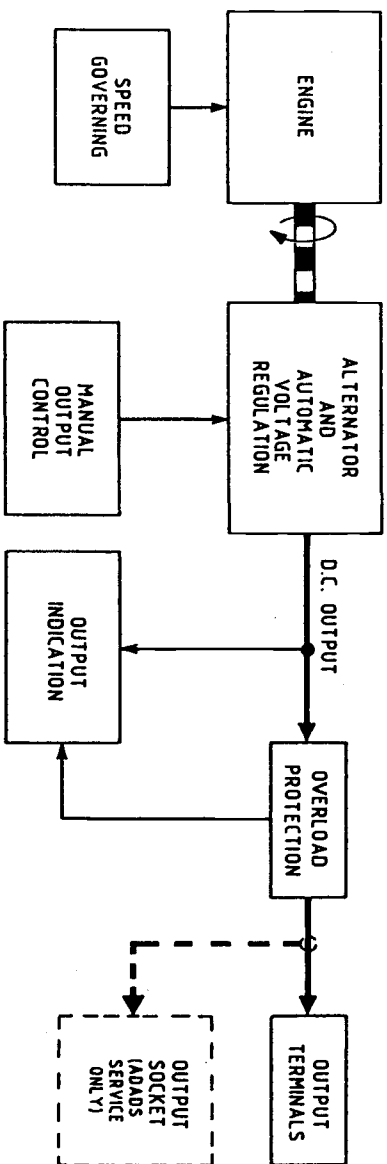

Fig 11 Generator set simplified block diagram
- 27 The main functional areas of the 14/28 V, 300/500 W generator set are shown in Fig 11, which indicates the functional locations of these areas within the generating system in a simplified block schematic form.